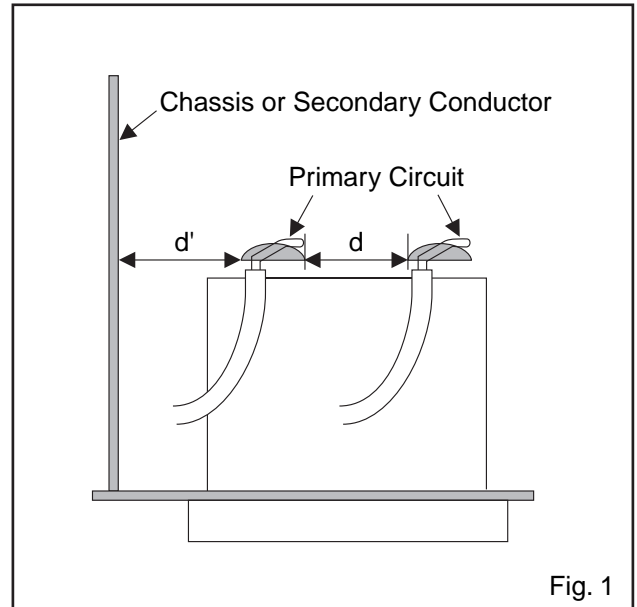

Fig. 1
When replacing primary circuit components, confirm specified clearance distance ( $d$ ) and ( $d'$ ) between soldered terminals, and between terminals and surrounding metallic parts. (See Fig. 1)
4. Put a paper clip on the flexfoil to short-circuit the contacts (fig.1)